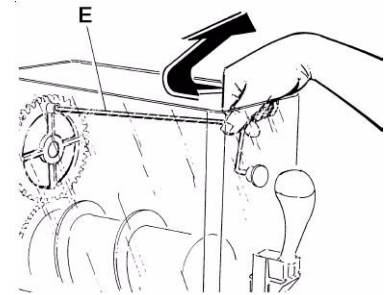

FIGURE 13
1. Turn off the main power switch and empty the bowl of any remaining product. Fill the bowl with hot water (not boiling) to help melt off any sugar deposits and drain the water prior to proceeding to step (2).
3. Pull the mixing rod (E) out by pushing it slightly backwards to remove it from its position (see Figure 13).